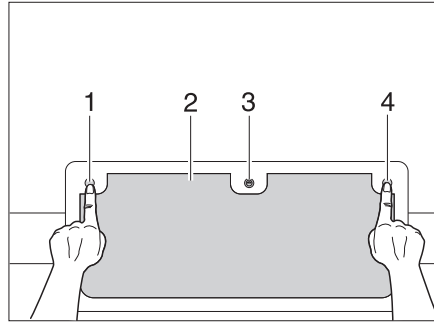

Fig. 32 Flap lock with buttons, locked
- Insert the key into the locking cylinder (Fig. 32,3) and turn a quarter turn.
- Press in the three push buttons (Fig. 32,1, 3 and 4).
- Close the external flap (Fig. 32,2) completely until it engages audibly.
- Insert the key into the locking cylinder (Fig. 32,3) and turn a quarter turn. The lock is locked.